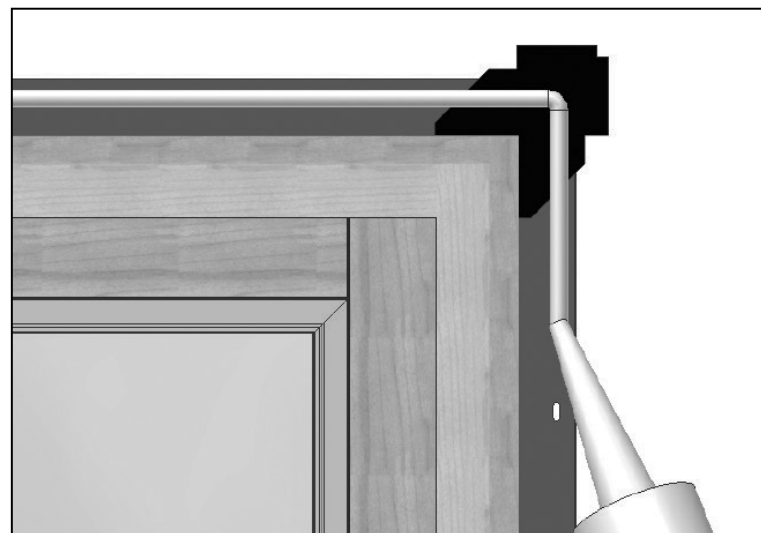

FIG. 8
- D) Apply sealant to the head and side nailing fin. Apply a 1/4" continuous bead of silicone in line with and completely covering the nailing flange holes. (Fig. 8)